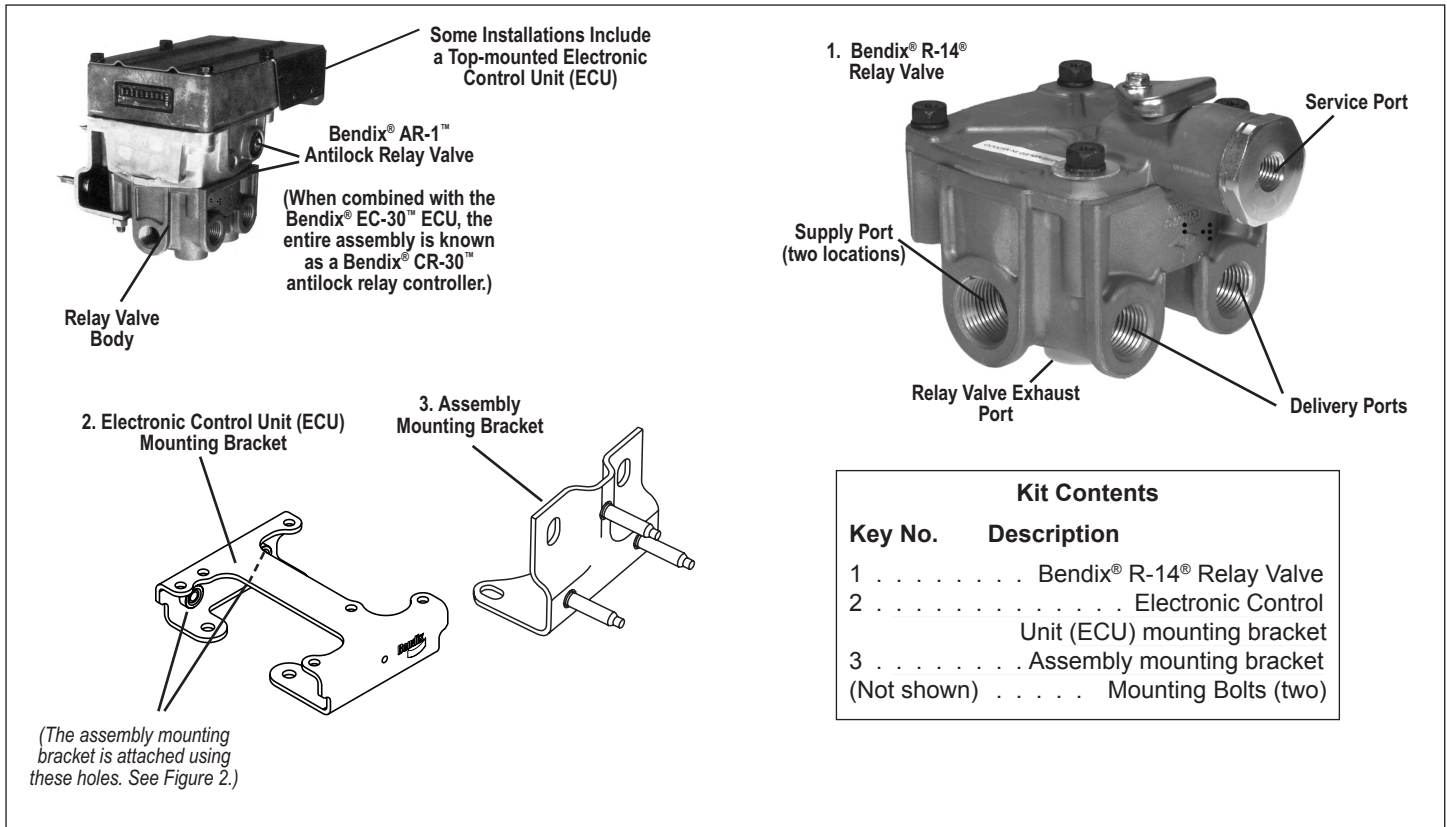

FIGURE 1 - BENDIX® AR-1™ ANTILOCK RELAY VALVE REPLACEMENT KIT
5. Remove the mounting hardware bolts and then remove the Electronic Control Unit (ECU) from the valve, if so equipped. (See Figure 1.) Retain the hardware for reinstallation.